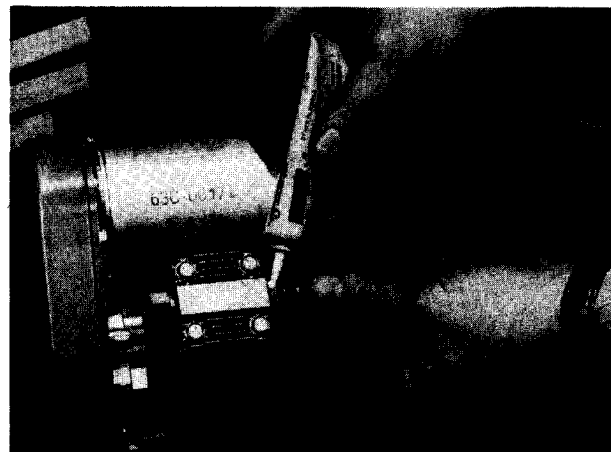
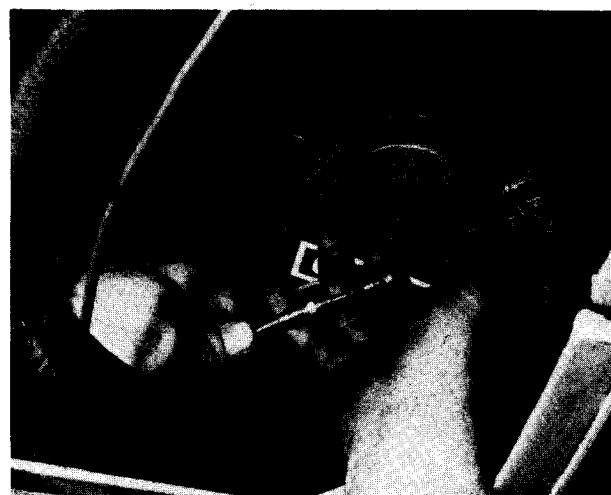

FIGURE 6
FIGURE 7
13. Screw fitting (Part #652628) into the left hand head of the new compressor. Use a good sealer on the thread (Figure 6). There will be a red plastic plug in the head which is to be removed. Connect the air line running between the compressor to the reservoir. An additional piece of air line may be required to achieve proper length (Figure 7).